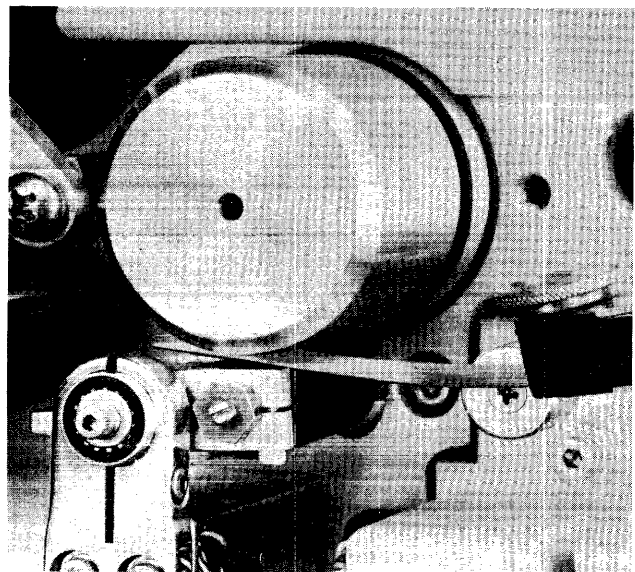

Figure 5-9.
Step 4: Check gap spacing with feeler gauge (Figure 5-9) (0.008 min. to 0.010 max.) for any displacement that may have occurred when yoke clamping screws are tightened. If necessary, return to Step 2 increasing or decreasing the feeler gauge thickness used in the original setting to compensate for any displacement that may occur when yoke clamping screws are tightened.